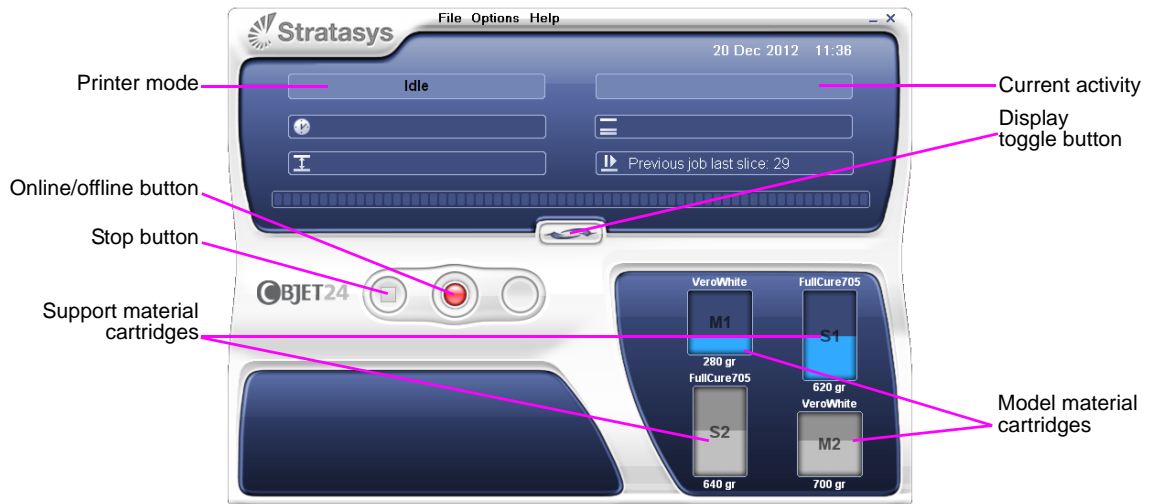

Figure 6-3: Objet24 interface
The Objet printer interface screen opens (see figure 6-3). All monitoring and controlling of the printer is done from this interface.
Objet24 printers use two cartridges of Model material and two cartridges of Support material, each weighing one kilogram when full. A graphical representation of the cartridges loaded and their current weight appears in the printer interface (see figure 6-3).
5. Check the printer interface to make sure that the new cartridge is detected and that its weight is displayed (see figure 6-3).
2. Make sure that there is sufficient Model and Support material loaded, as indicated in the printer interface (see figure 6-3). You may want to replace the cartridges of Model and Support material currently loaded in the printer to avoid the need for replacing them during printing.
1. If the printer is in offline mode, switch it to online mode by clicking the red button at the bottom of the printer interface (see figure 6-3 on page 3).